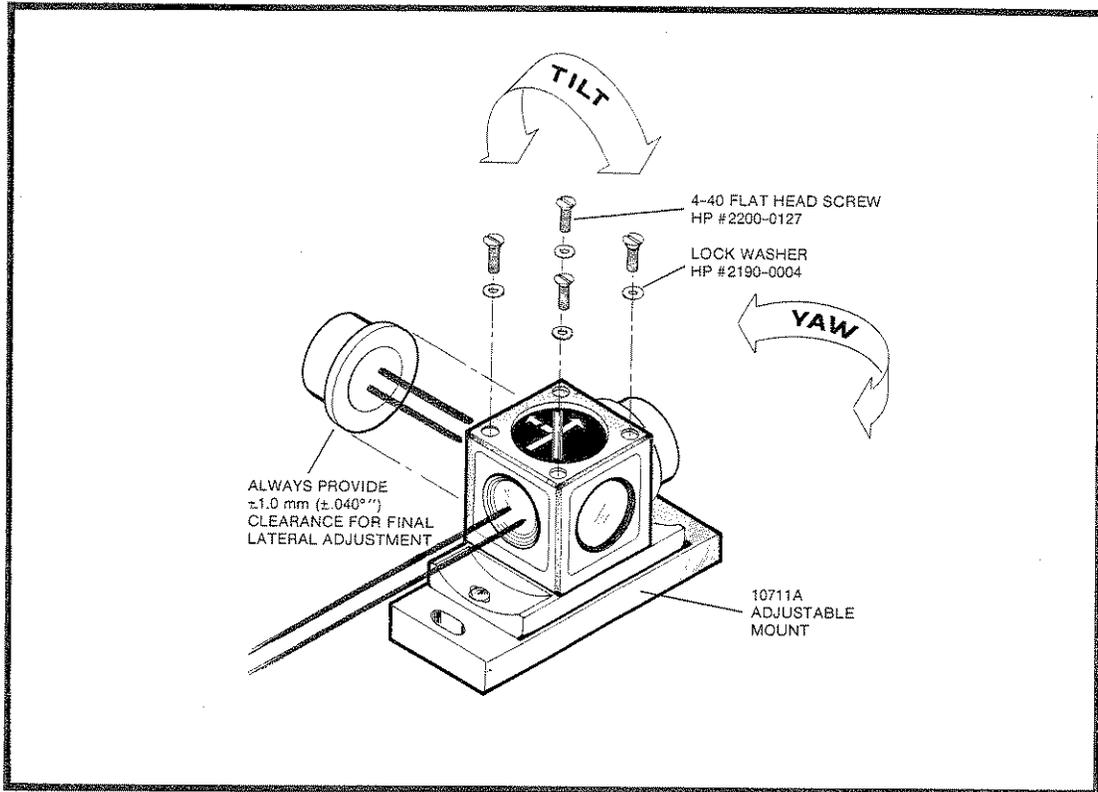

Figure 2-26. Horizontal Plane Mounting Using the 10711A Adjustable Mount
- Figure 2-26* shows how to mount the linear or the plane mirror interferometer in the horizontal plane using the 10711A Adjustable Mount.